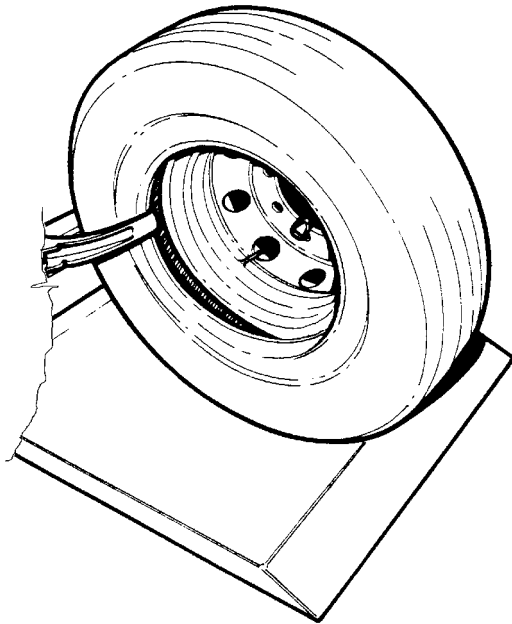

Fig.30
4. Rotate the chuck counterclockwise until the outer bead is completely demounted (fig.30).